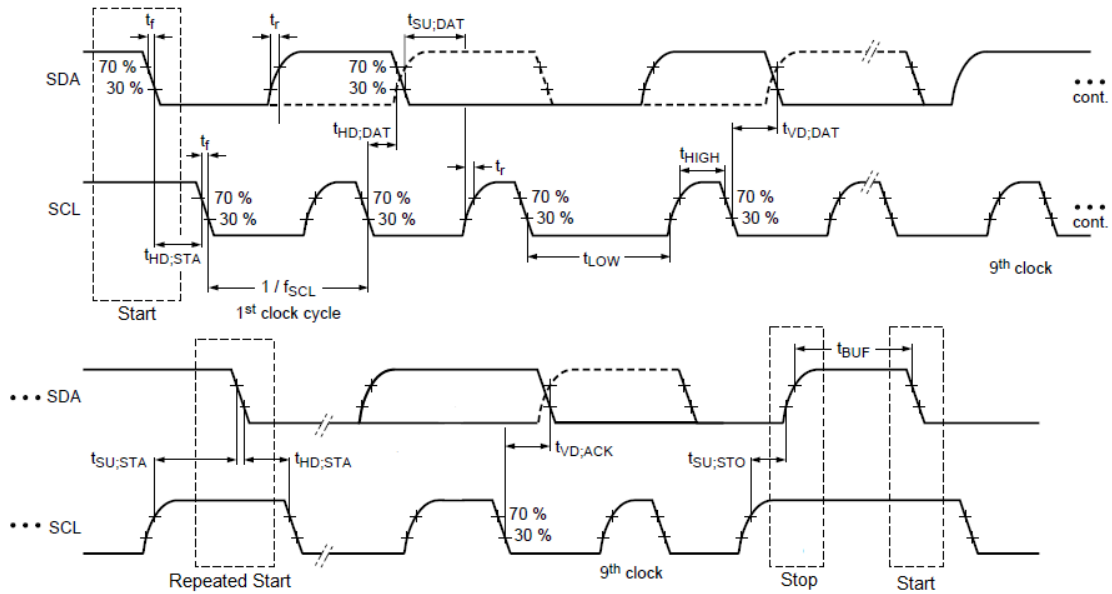

Figure 5 I2C Timing Waveform
- In I2C mode, the serial data and clock have an on-chip 25 k Ω pull up resistor to VDDIO. Please refer Figure 5 for the nomenclature of these parameters.